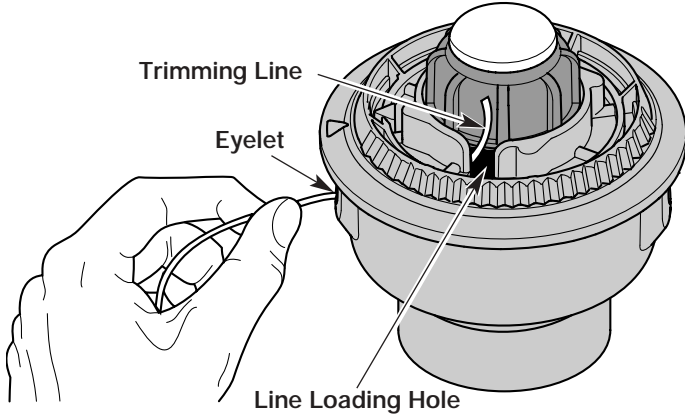

Fig. 41
3. Pull old line out of the line loading and line locking holes (Fig. 41 and 42).
4. Insert a piece of trimming line straight into one of the two eyelets in the outer spool. Push it up through the line loading hole in the inner reel (Fig. 41). Do not bend the line when inserting it into the eyelet.